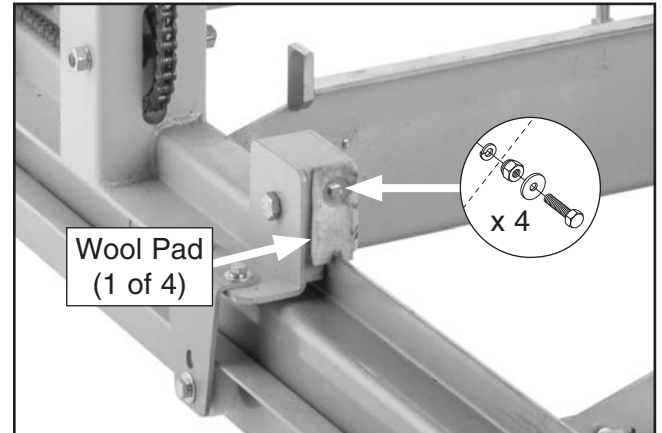

Figure 19. Pad installed at carriage corner.
19. Attach (1) wool pad to each corner of carriage with (1) M6-1 x 16 hex bolt, 6 x 23 x 1.65mm flat washer, M6-1 lock nut, and 6mm lock washer (see **Figure 19**).